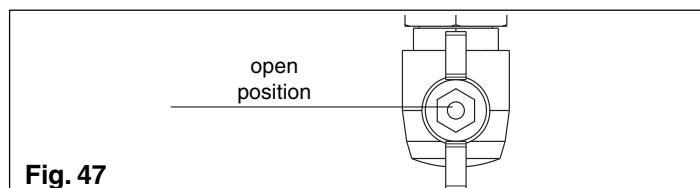

Fig. 47
- open the gas tap by turning it anti-clockwise (fig. 47)